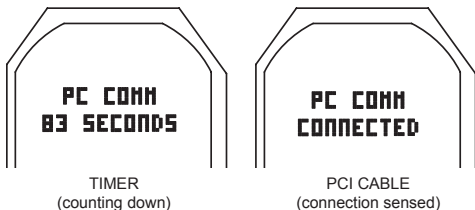

Fig. 159A - PCI CABLE
- > align the pins of the cable connector with the holes in the data port and press the connector into the port (Fig. 159A).